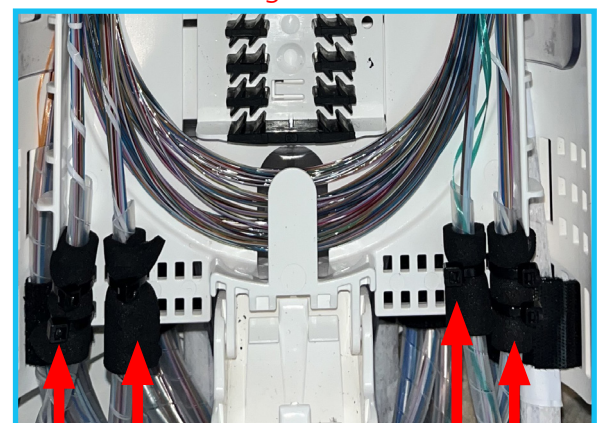

Figure 14.2
2. Attach the green binder group to the splice tray (right hand side) using foam and cable ties [\[figure 14.2\]](#).
3. Attach the white binder group to the bottom tray (left hand side) using foam and cable ties [\[figure 14.2\]](#).